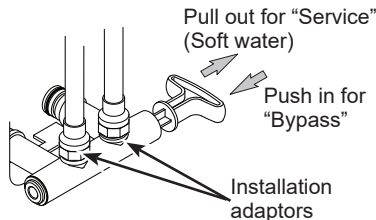
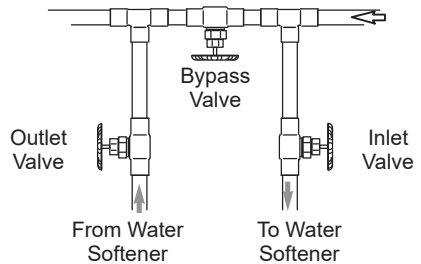
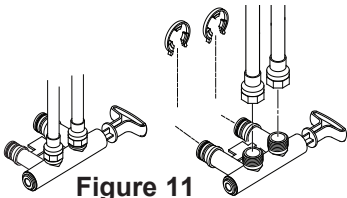

Figure 4
Figure 5
Figure 11
Always install either a single bypass valve (provided), as shown in Figure 4, or, if desired, parts for a 3 valve bypass system (not included) can be purchased and assembled, as shown in Figure 5. Bypass valves allow you to turn off water to the softener for maintenance if needed, but still have water in house pipes.
IMPORTANT: This water softener has a non-metallic valve system. Installing it on metal plumbing will break electrical continuity, which may interrupt grounding for the home. You must restore electrical continuity in your metal plumbing system. If you install a 3-valve bypass system (Figure 5), electrical continuity will be maintained. If you install the non-metallic bypass valve (Figure 11), please refer to the Installing the Ground Wire section before cutting the pipe.
2. Place the bypass valve (single or 3 valve) into the "bypass" position. See Figures 4 and 5.
- Single bypass valve (Figure 4): Slowly move the valve stem toward "service," pausing several times to allow the water softener to fill with water.
- 3 valve bypass (Figure 5): Fully close the bypass valve and open the outlet valve. Slowly open the inlet valve, pausing several times to allow the water softener to fill with water.